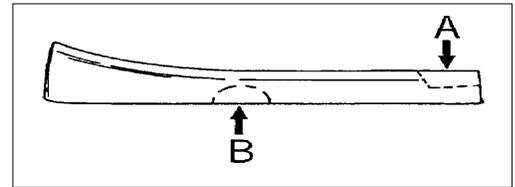

Figure 2
7.5 Adapt the interior mirror wiring harness cover to properly fit at the windshield frame trim (Figure 2). Do this by transferring the contour of the frame trim to the mirror cover (Figure 2, arrow A). Then remove excess material using a hand saw or lock file.
Note: Route the rain sensor wiring (if equipped) with the interior mirror wiring, under the mirror cover together. Make an opening for the rain sensor harness if necessary. (Figure 2, arrow B)